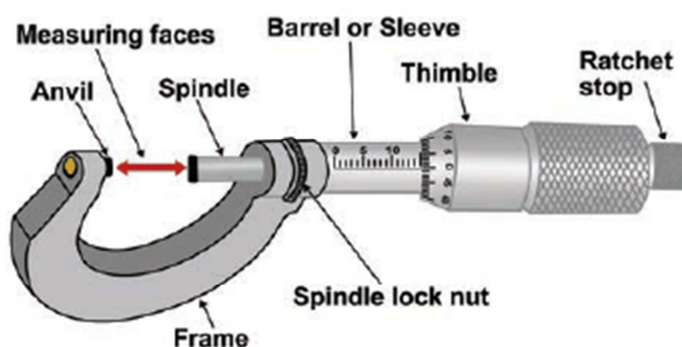

Figure 1.6 Screw gauge
- ❖ Grooves are cut on the inner surface of the cylinder through which a screw passes (Figure 1.6).
- ❖ On the cylinder parallel to the axis of the screw there is a scale which is graduated in millimetre. It is called Pitch Scale (PS).